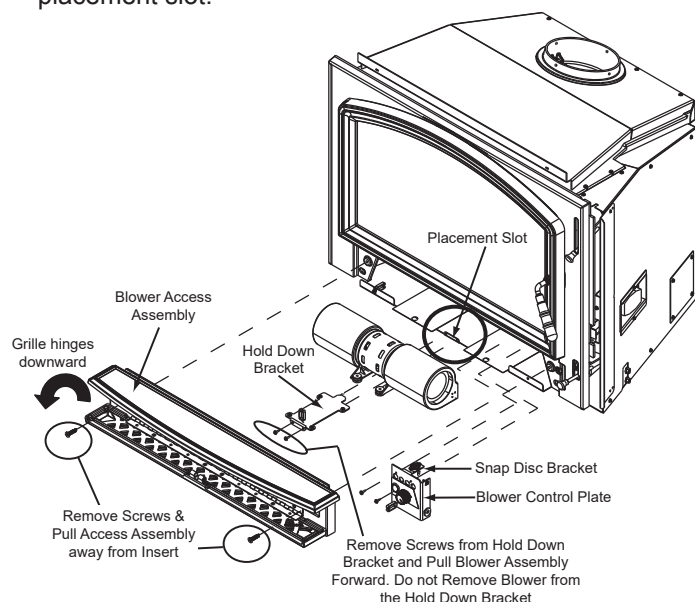

Figure 25.1
1. The grille on the blower access assembly is hinged. Swing the grille downward to expose the 2 screws (**Figure 25.1**).